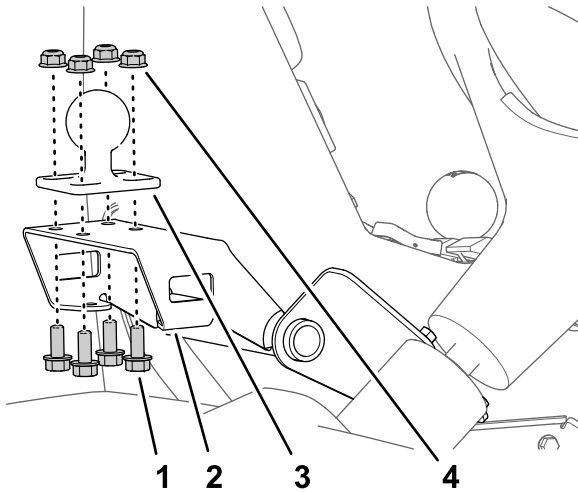

Figure 164
1. Assemble the ball mount to the bracket for the monitor mount (Figure 164) with the 4 flange-head bolt (5/16 x 3/4 inch) and 4 flange locknut (5/16 inch).